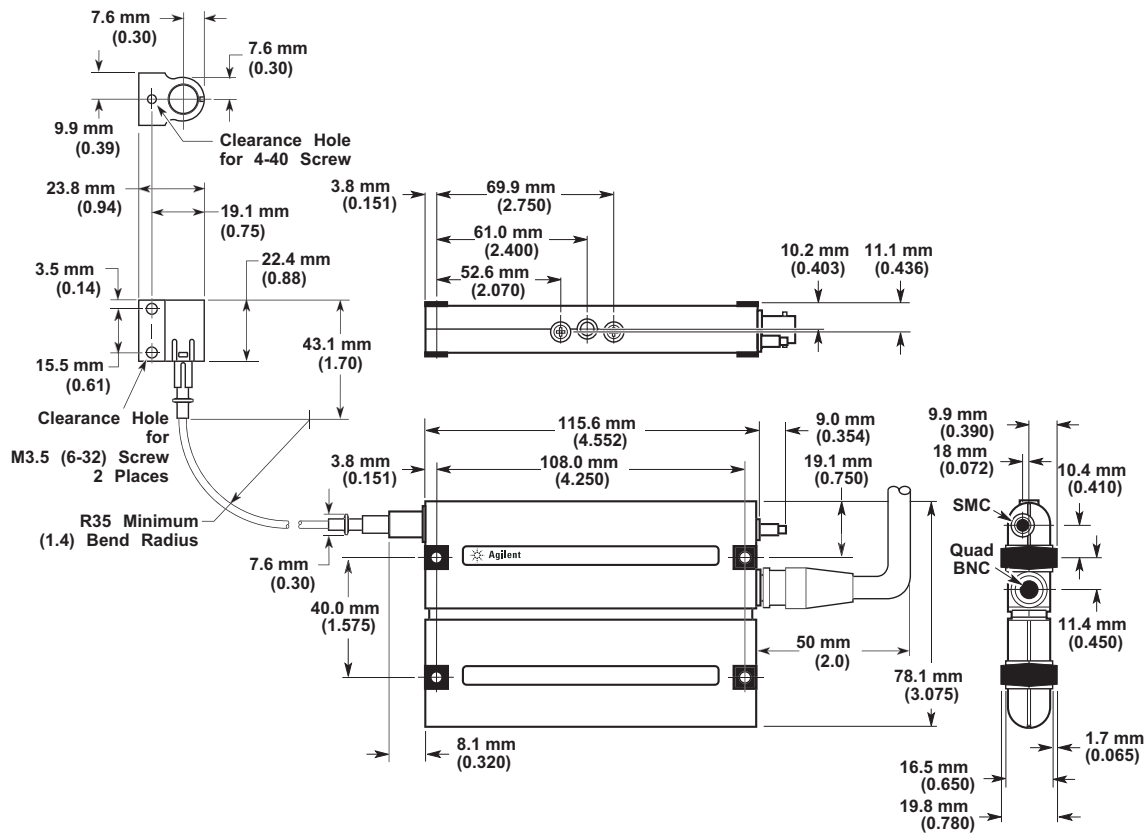

Figure 271 Agilent E1708A receiver — dimensions
- Leave enough clearance for the signal cable that connects to the receiver's 4-pin signal and power connector. (See dimensional drawing in Figure 271.)